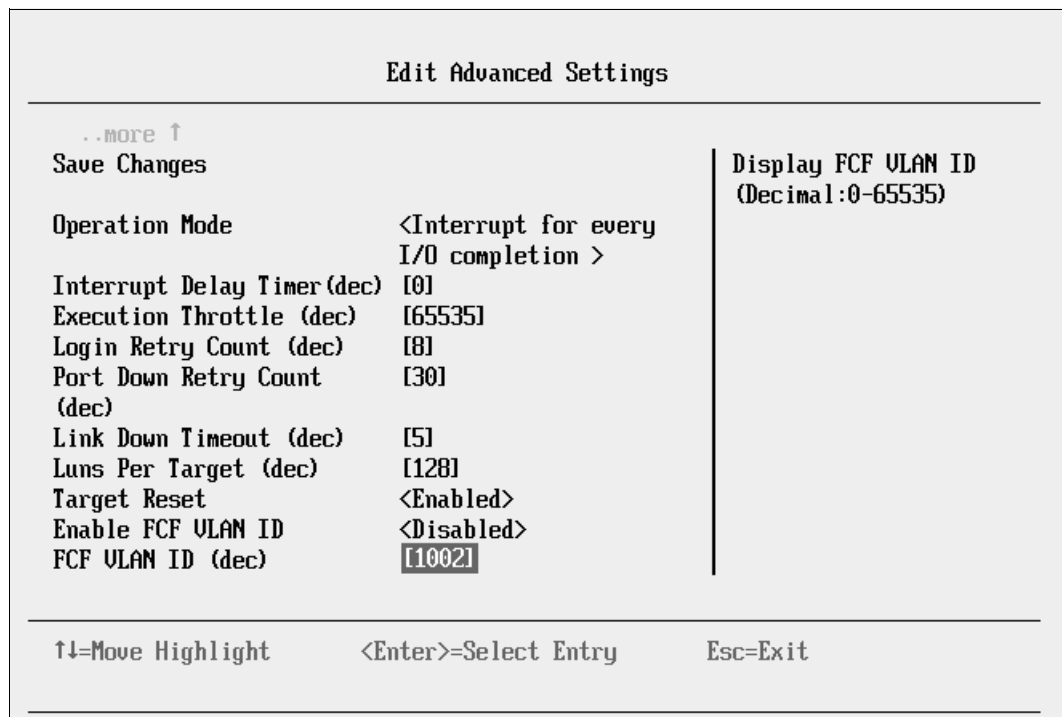

Figure 9-154 Edit Advanced Settings panel
7. In the Edit Advanced Settings panel (Figure 9-154), confirm the following settings: